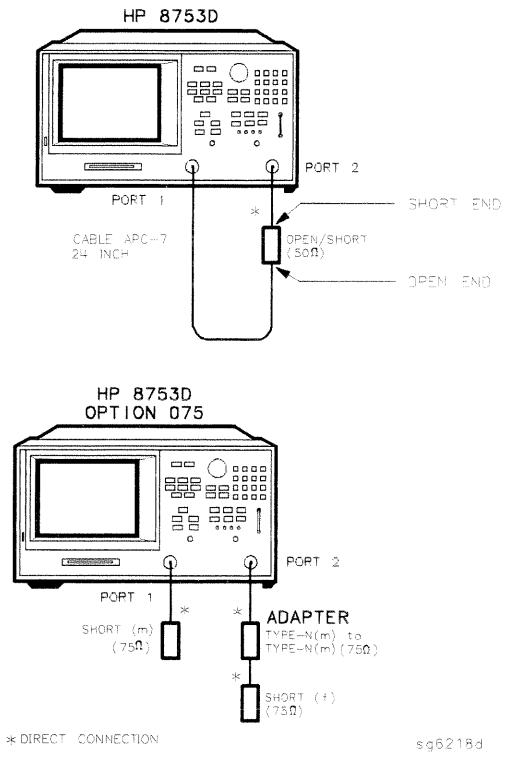

Figure 2-31. Test Port Crosstalk Test Setup
1. Connect the equipment as shown in Figure 2-31.